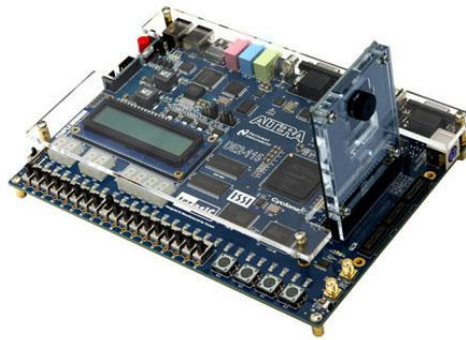

Figure 1-3 Connect the D5M to DE2-115 board's expansion port
2. Connect the D5M to your DE2-115 board as shown in **Figure 1-3**.